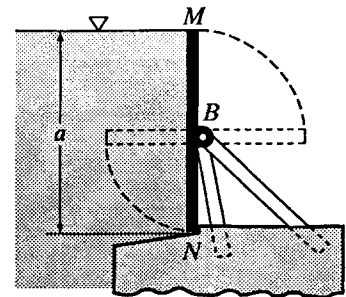

Figure X3.7.9
3.7.9 In Fig. X3.7.9 the rectangular flashboard MN shown in cross-section ( $a = 5.4$  m) is pivoted at B. (a) What must be the maximum height of B above N if the flashboard is on the verge of tipping when the water surface rises to M? (b) If the flashboard is pivoted at the location determined in (a) and the water surface is 1 m below M, what are the reactions at B and N per m length of board perpendicular to the figure?